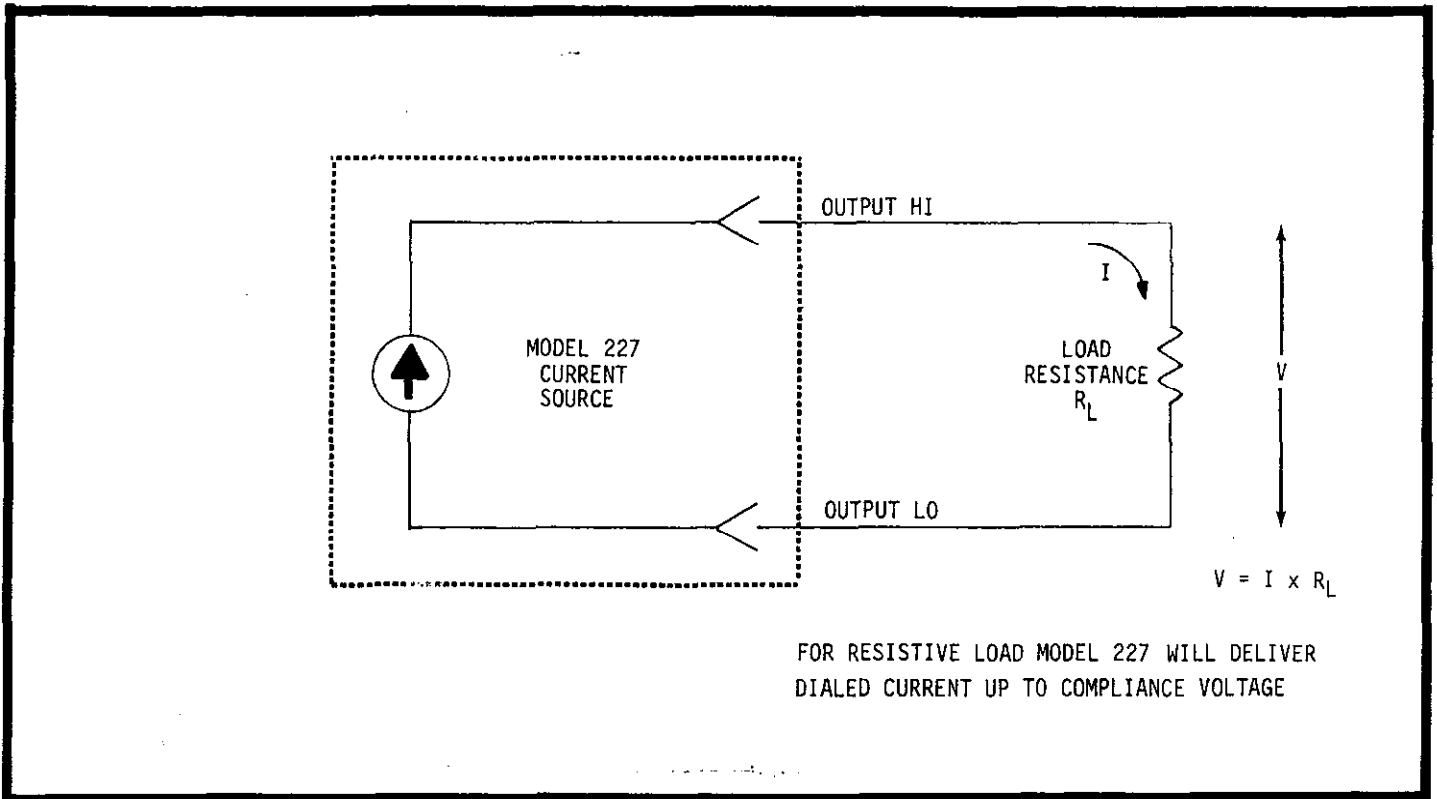

FIGURE 10. Connections as a Current Source with Resistive Load.
1. Operation as a Current Source. The Model 227 can deliver a constant current up to the compliance voltage setting. Current is set by use of the Range and Decade Dials on the front panel. With a resistive load as shown in Figure 10, the voltage developed across the load resistance  $R_L$  is:  $V = I \times R_L$ . If the compliance voltage setting  $V_C$  is less than the voltage  $V$ , then the Model 227 will automatically limit the voltage to  $V_C$  and the LIMIT indicator will be lighted.